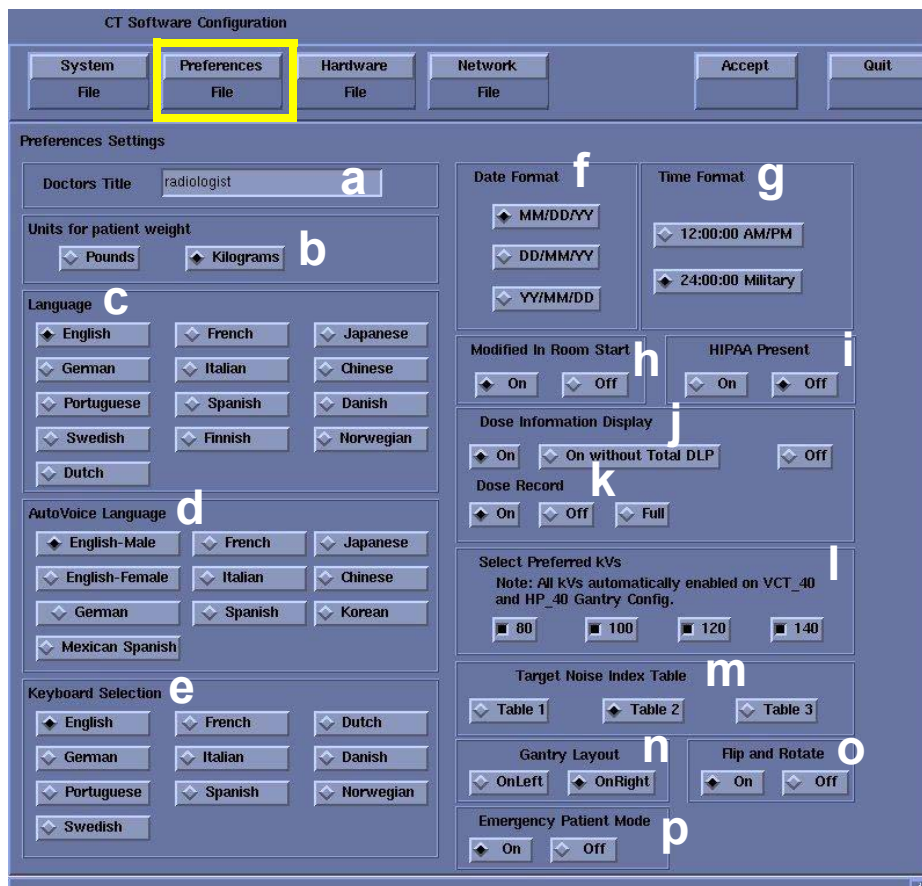

Figure 6-5 Preferences Setup Screen
- 6.) Click the **PREFERENCES** button to display the Preference Settings Screen as shown in Figure 6-5.